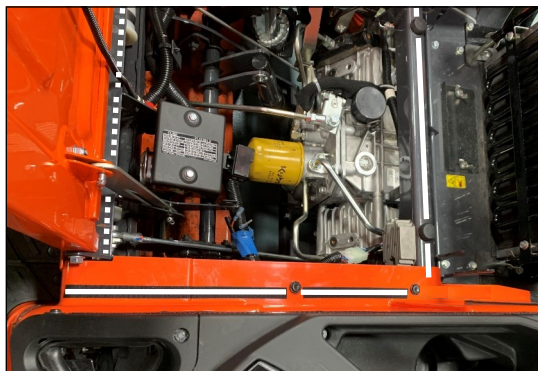

Fig. 4.10 (Install Velcro)
- 4.10 See fig. 4.10. Flip the seat forward and install the supplied adhesive Velcro as shown. Be sure to wipe down the surfaces where the Velcro will be adhered and that the surfaces are at room temperature.